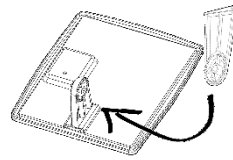

Fig. 7
- b. Attach Part B to Part C **(Fig. 7)** and secure with screw cap (Part H).